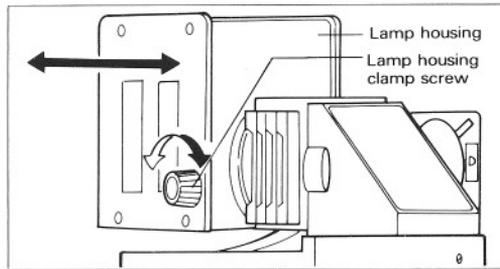

Fig. 27
- 6) Slide out the diffuser from the optical path. Releasing the lamp housing clamp screw, move the housing back and forth to have the lamp filament image focused on the phase-contrast ring. (Fig. 27)
- 5) Slide out the diffuser from the optical path. Releasing the lamp housing clamp screw, move the housing back and forth to have the lamp filament image focused on the phase-contrast ring. (Fig. 27)